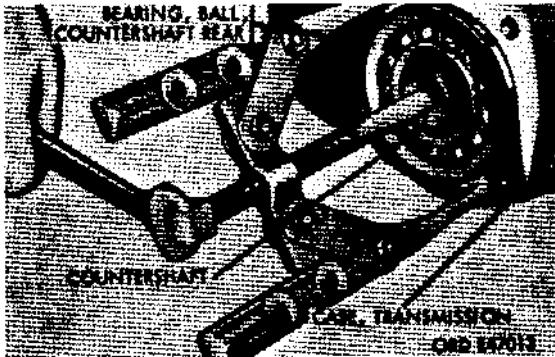

Figure 257. Pulling countershaft rear bearing
(4) Countershaft assembly.
- (a) Remove cotter pin and slotted nut. Using a pry bar, force the countershaft assembly with gears toward rear of transmission case (fig. 257), forcing countershaft rear ball bearing from case. Attach a universal puller and pull rear bearing from countershaft. Refer to note in (2)(c) above.